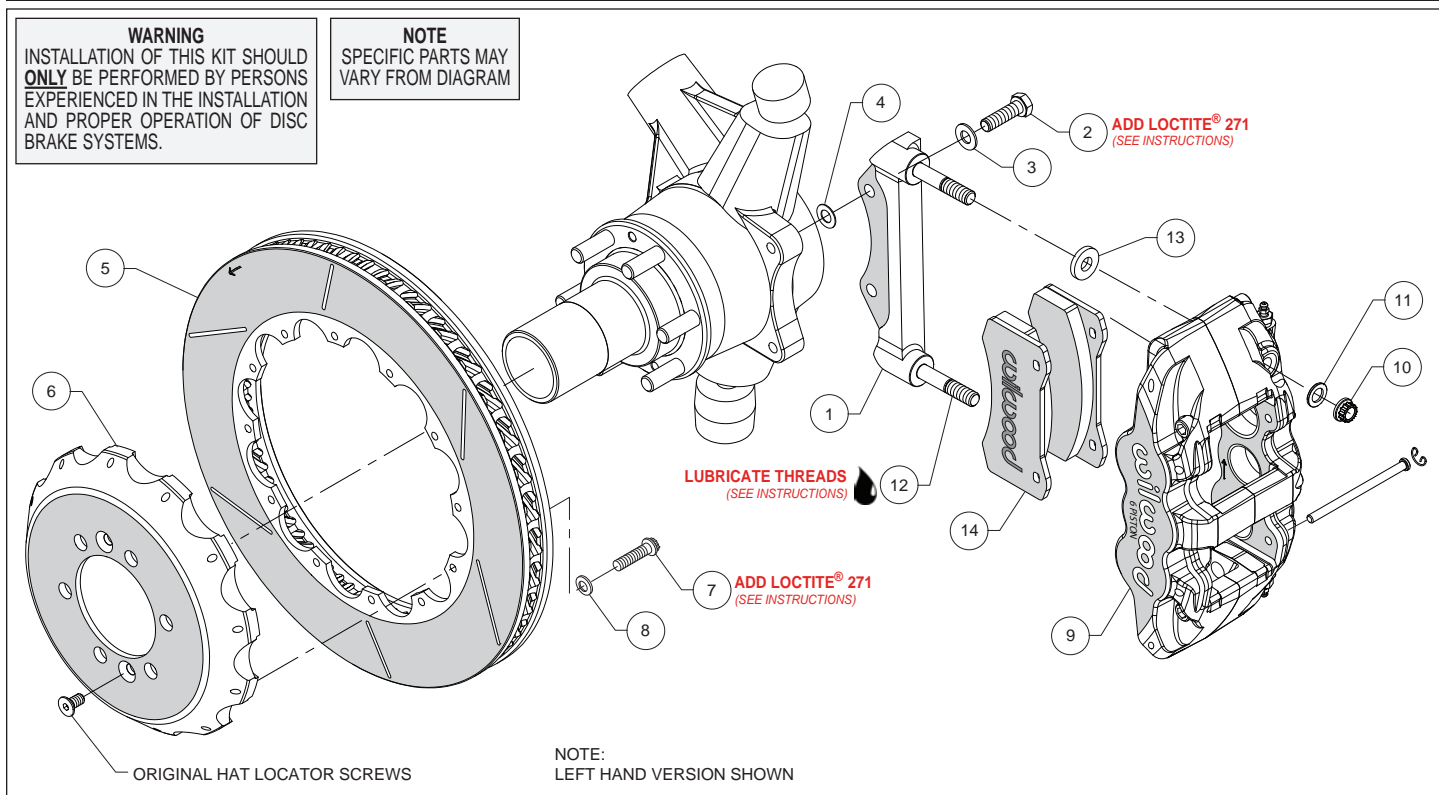
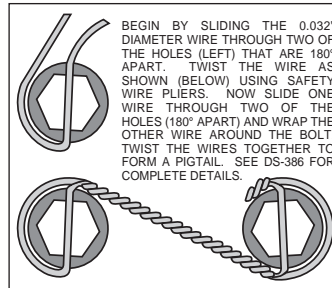

Figure 1. Typical Installation Configuration
Figure 3. Safety Wire Diagram
**Assembly Instructions** (numbers in parenthesis refer to the parts list and Figure 1 on the preceding pages):
- The caliper mount bracket (1) should initially be installed with clean, dry threads on the mounting bolts. Orient the bracket as shown in Figure 1 and Photo 1, and install using bolts (2) and washers (3). Initially place one .030 thick shim (4) on each bolt between the bracket and upright, Figure 1. Temporarily tighten the mounting bolts. **NOTE:** *The bracket must fit squarely against the mounting points on the upright.* Inspect for interference from casting irregularities, machining ridges, burrs, etc. Later, after the caliper alignment has been checked, the mount bolts will be secured using red *Loctite*® 271.
- Orient the rotor (5) and the hat (6) as shown in Figure 1 and Photo 2. Attach rotor to hat using bolts (7) and washers (8). Using an alternating sequence, apply red *Loctite*® 271 to the threads, and torque to 155 in-lbs. For an added measure of security, the bolts may be safety wired using standard 0.032 inch diameter stainless steel safety wire as shown in Figure 3. Please refer to Wilwood's data sheet DS-386 (available at [www.wilwood.com/Pdf/DataSheets/ds386.pdf](http://www.wilwood.com/Pdf/DataSheets/ds386.pdf)) for complete safety wire installation instructions.
- NOTE:** *This kit contains distinct right and left hand calipers that must be mounted in a specific direction, as described below.* Lubricate the caliper mounting studs (12) with lightweight oil. Place one spacer (13) on each stud between the caliper and the bracket, as shown in Figure 1 and Photo 4. Mount the caliper (9) onto the bracket (1) using lock nuts (10) and washers (11), Figure 1. Ensure that the caliper is mounted so the largest pistons are at the rotor exit end of the caliper, in relation to the direction of rotor rotation. Temporarily tighten the lock nuts and view the rotor through the top opening of the caliper. The rotor should be centered in the caliper, Photo 5. If not, adjust by adding or subtracting shims (4) between the bracket and the upright. Always use the same amount of shims on each of the two mounting bolts. Once the caliper alignment is correct, remove the bracket mounting bolts (2) one at a time, apply red *Loctite*® 271 to the threads, and torque to 35 ft-lbs.
- Remove the two pad retaining pins from the caliper (9) by carefully popping out the pin retaining clips and sliding out the pins. Insert the brake pads (14) into the caliper from the bottom, Figure 1 and Photo 6. With the friction material facing the rotor, secure the brake pads in place with the pad retaining pins and clips, Photo 7. Reinstall the caliper onto the caliper mounting bracket and torque the caliper lock nuts (10) to 47 ft-lb.